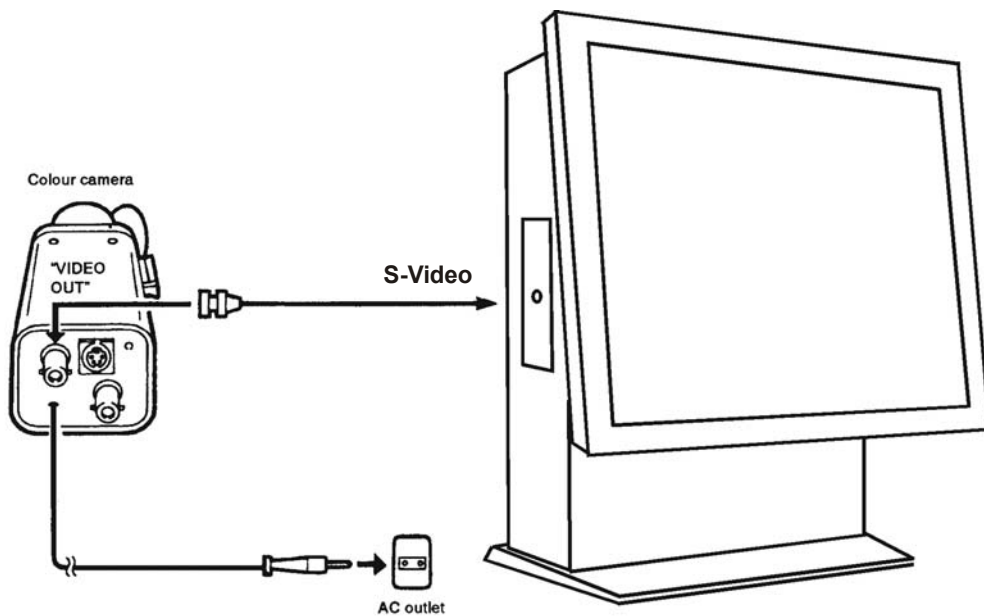

fig. 4.2
c. Connect the video camera to the computer and to the power supply as it is shown on the fig.4.2